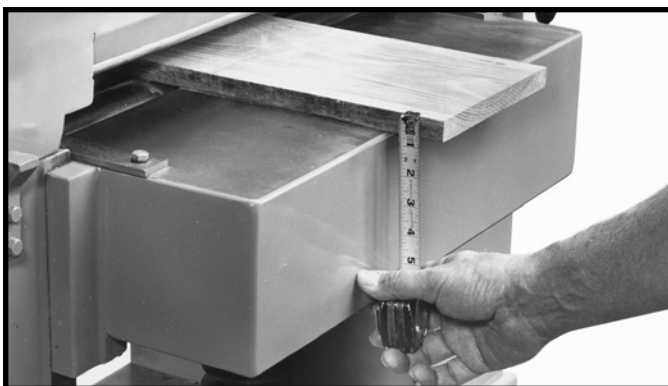
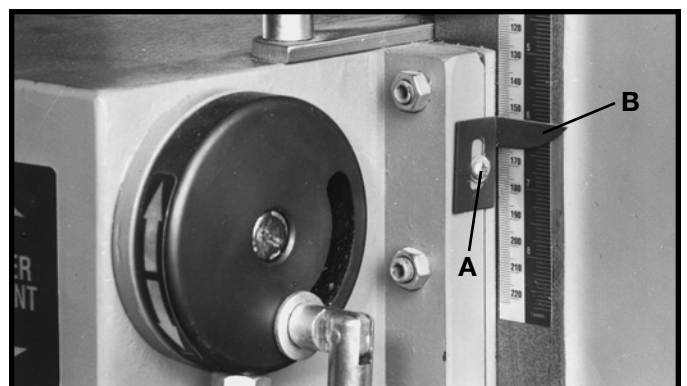

Fig. 52
Fig. 53
2. Measure the thickness of the planed end of the stock as shown in Fig. 52. If an adjustment is necessary, loosen screw (A) Fig. 53, adjust pointer (B) and retighten screw (A).